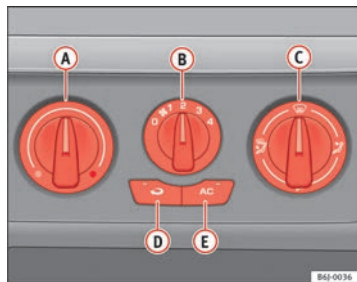

Fig. 103 Air conditioning controls on the dash panel
- Disconnect the cooling system using button ⇒ Fig. 103 **AC** (the button light turns off).
When air recirculation mode is switched on (button \Rightarrow Fig. 103  with warning lamp) strong odours in the outside air do not enter the vehicle interior, for example when passing through a tunnel or in a traffic jam.